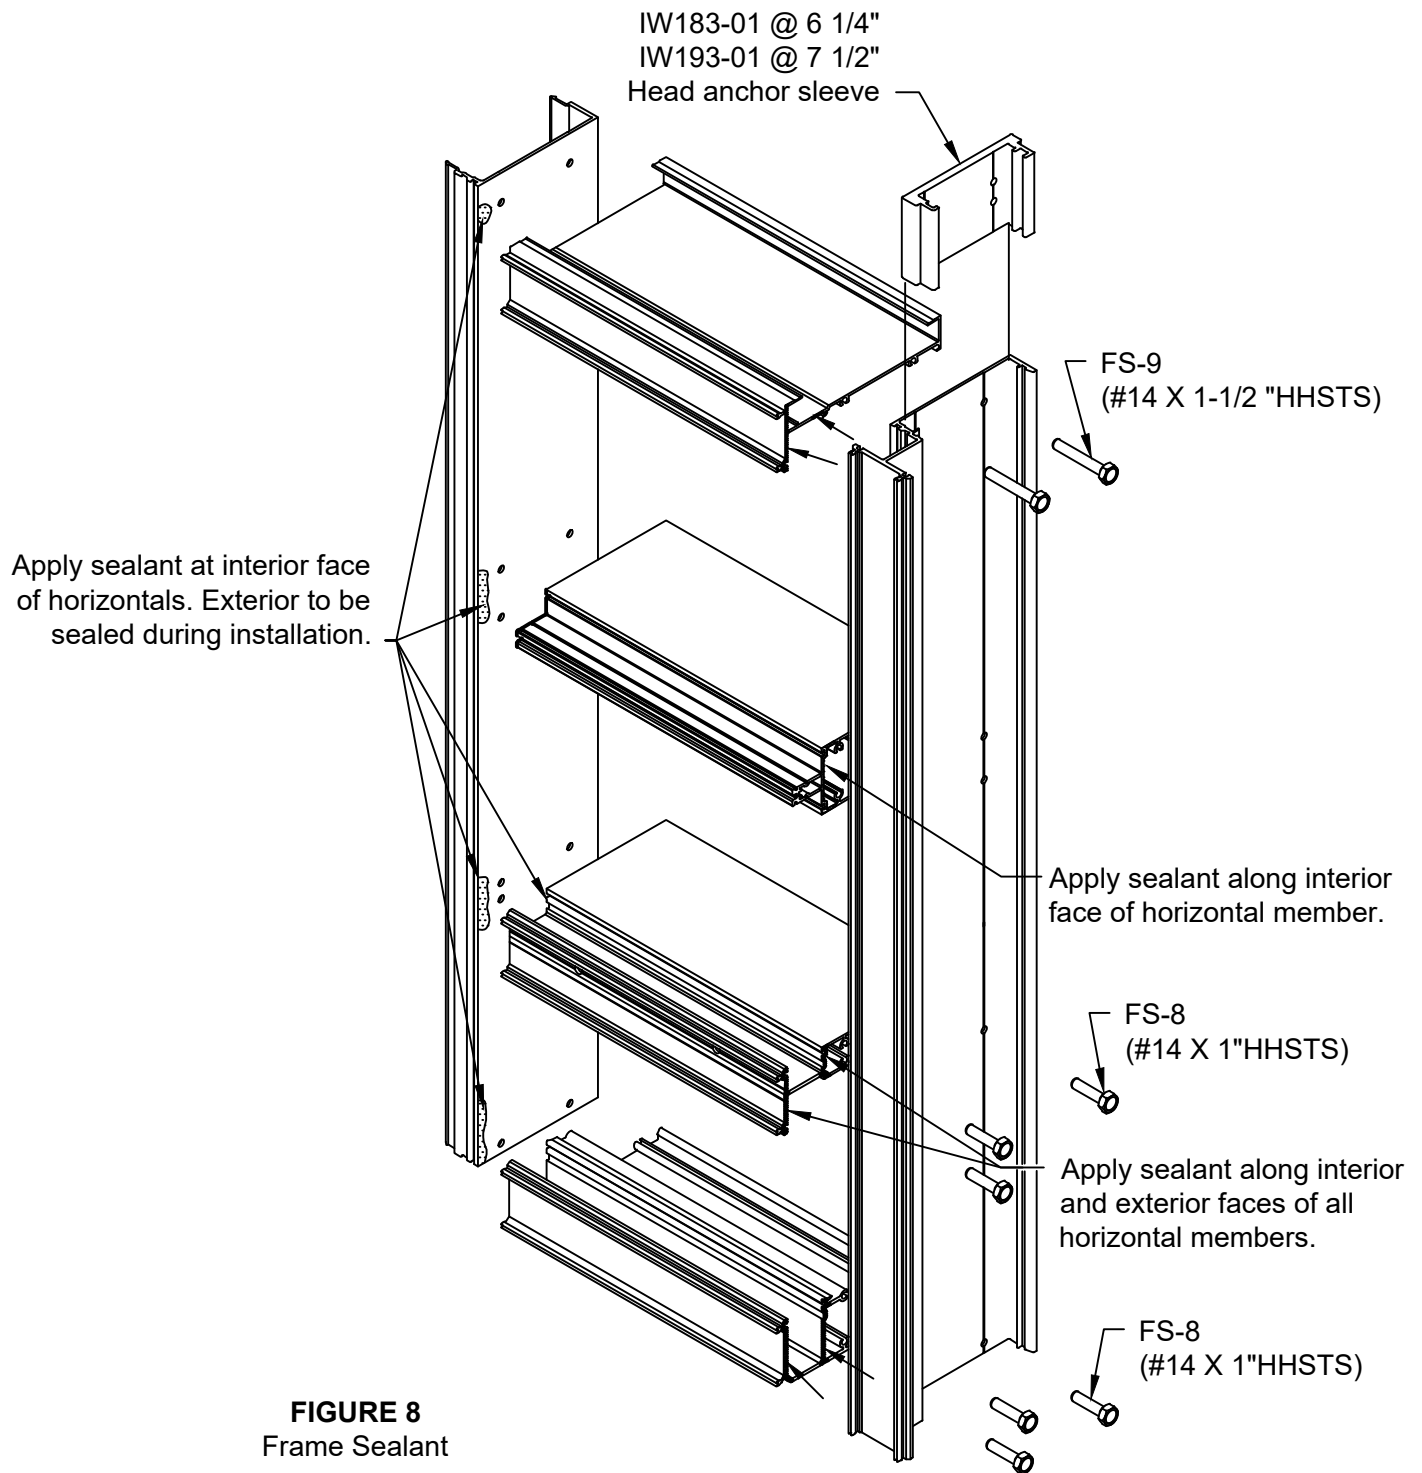

FIGURE 8
- 2.2 Apply sealant to ends of horizontals prior to attaching to verticals. SEE FIGURE 8, page 10.
- 2.4 Install IW-193-01 (IW-183-01) head anchor sleeve into top of IW-540 (IW-440) or IW-544 (IW-444) mullion. Sleeve to be installed prior to attaching head member. Sleeve attached using FS-9 assemble screws fastened into head extrusion. SEE FIGURE 8, page 10
- 2.5 Attach head to vertical using two FS-9 fasteners. Attach intermediate horizontals and sill members using FS-8 fasteners. SEE FIGURE 8, page 10. Tool excess sealant at horizontal-to-vertical joints. Optional exterior glazed horizontal may require additional fasteners. SEE FIGURE 18, page 17 for optional horizontal information.